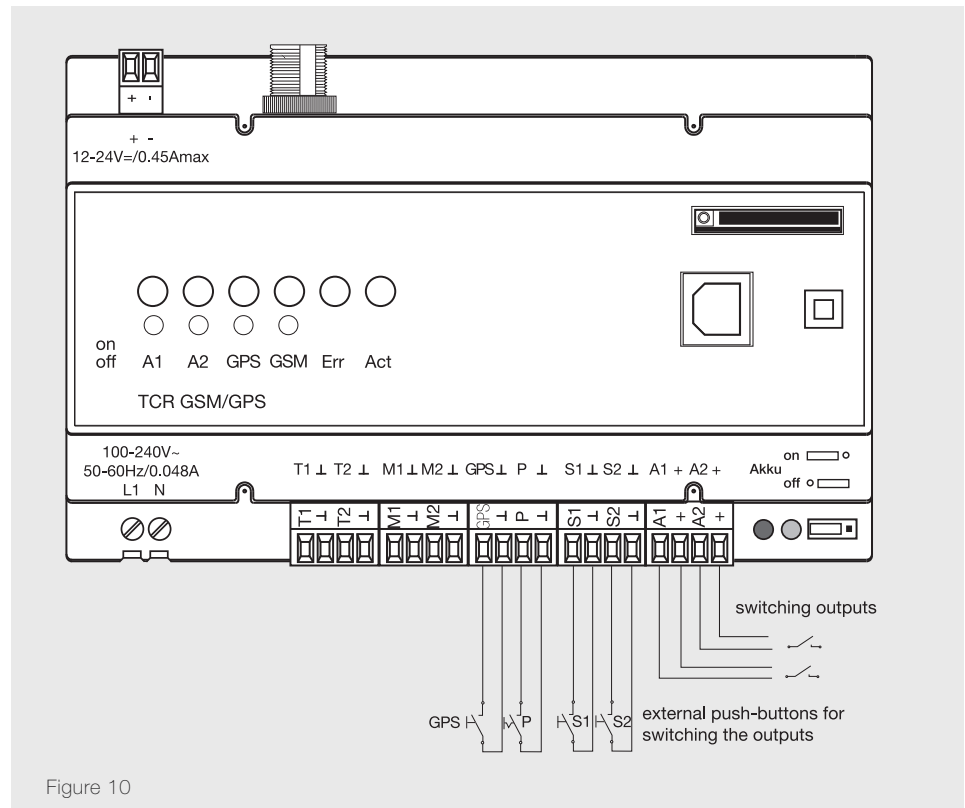

Figure 10
The switching of the outputs can be done with SMS or with push-buttons (s. figure 10) and will be indicated at two LEDs. The outputs can be switched on for a programmable time (impulse operation). Switching output 1 can be activated with a free of charge telephone call (CLIP-function). Here the phone num-
To avoid unnecessary costs when one is present, that outputs are being switched via SMS or that SMS are being sent off, a presence (P) switch can be installed as shown in figure 10.